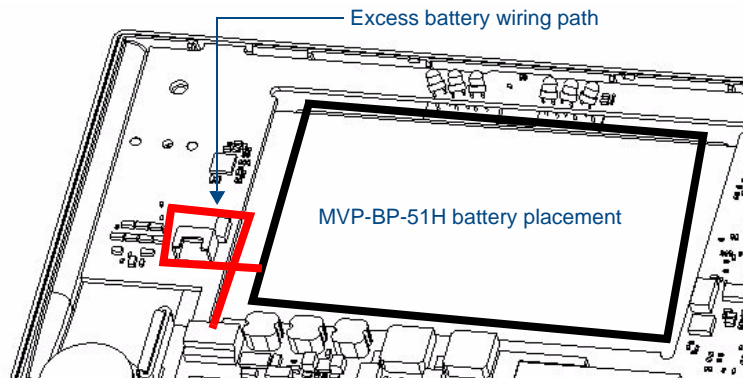

FIG. 87 Path of excess battery wiring
1. On the back cover, make sure that the battery connector wiring runs to the right. Make sure that the excess battery wiring fits in the space to the bottom left of the battery placement (FIG. 87). The battery wiring may be looped around the support if necessary; make sure that the battery is not crimped or damaged upon closure of the case.